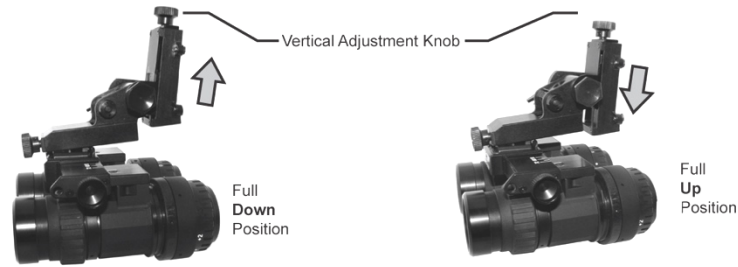

Figure 2-7. Vertical Adjustment Knob
3. Turn the vertical adjustment knob (see Figure 2-7) to center the eyepieces in from of your eyes. Minor readjustment may be needed after adjusting the tilt lever.